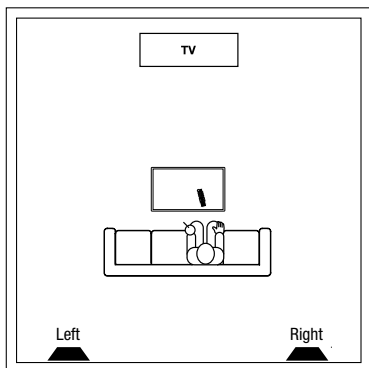

Figure 1. ProFX loudspeakers are placed near back corner walls of a home theater room.
- *Place the surround loudspeakers on a rear wall directly behind the listening position. If possible, try placing the loudspeakers nearer to the corners, as shown in **Figure 1 and 2**. Set each BIPOLE/DIPOLE switch to DIPOLE for reflected sound. Moreover, the adjoining walls will act as powerful reflectors to create even more reflections.*